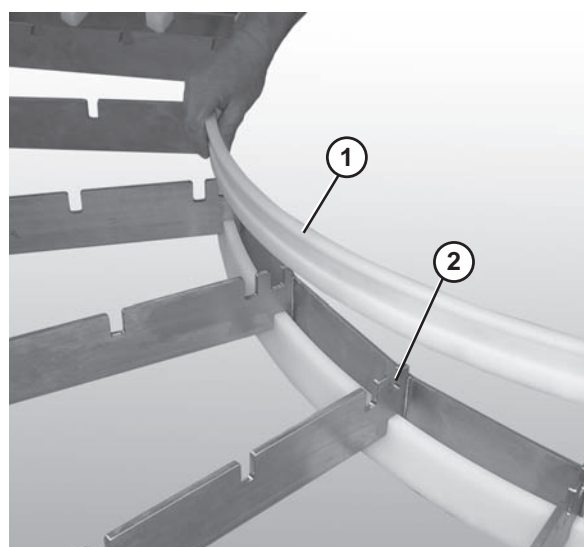

Figure 26
1. Insert the inside curve top wear strip (**Figure 26, item 1**) into the innermost slot (**Figure 26, item 2**) on the inside of the frame.